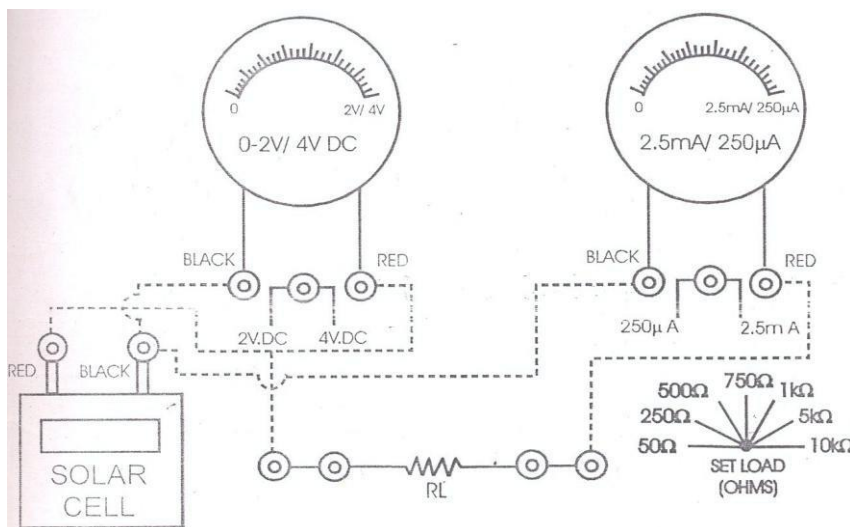

Figure 3. Circuit diagram of Solar cell
1. Place the solar cell and the light source (100 watt lamp) opposite to each other on a wooden plank. Connect the circuit as shown by dotted lines (Fig. 3) through patch chords.
2. Select the voltmeter range to 2V, current meter range to 250µA and load resistance (RL) to 50Ω.
1. Connect the circuit as shown by dotted lines (Fig.3) through patch chords.